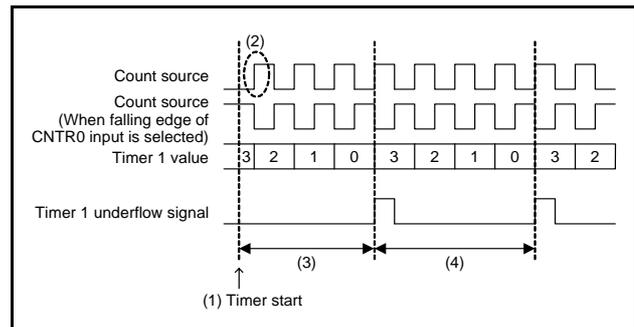

Fig 33. Timer count start timing and count time when operation starts
- Count starts from the first rising edge of the count source (2) in Figure 33 after prescaler and timer operations start (1) in Figure 33.
- Time to first underflow (3) in Figure 33 is shorter (for up to 1 period of the count source) than time among next underflow (4) in Figure 33 by the timing to start the timer and count source operations after count starts.